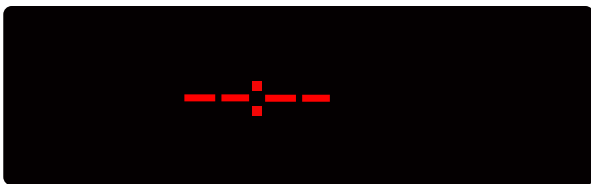

FIG: 03
2. PRESS AND HOLD THE TIME SETTING BUTTON FOR 2SECS TO DISPLAY THE TIME AND DAY AS PER FIG 03 (NO NUMBERS SHOWN AS TIME NOT SET).